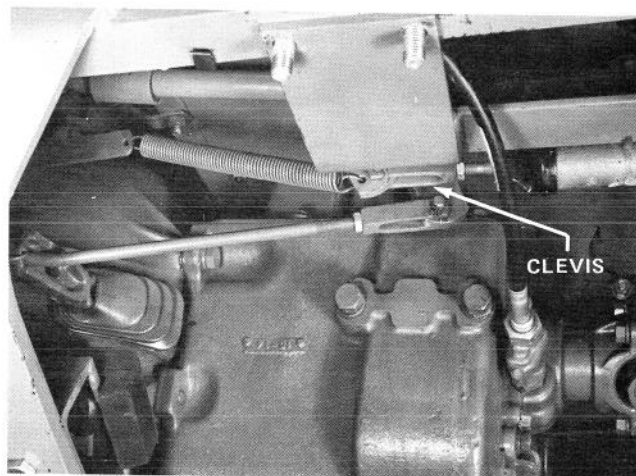

Figure 98
3. Adjust the clevis so a turbulence can be seen in the fluid when the brake pedal is making its return stroke. This will ensure that the piston is making its full return stroke (Fig. 98).